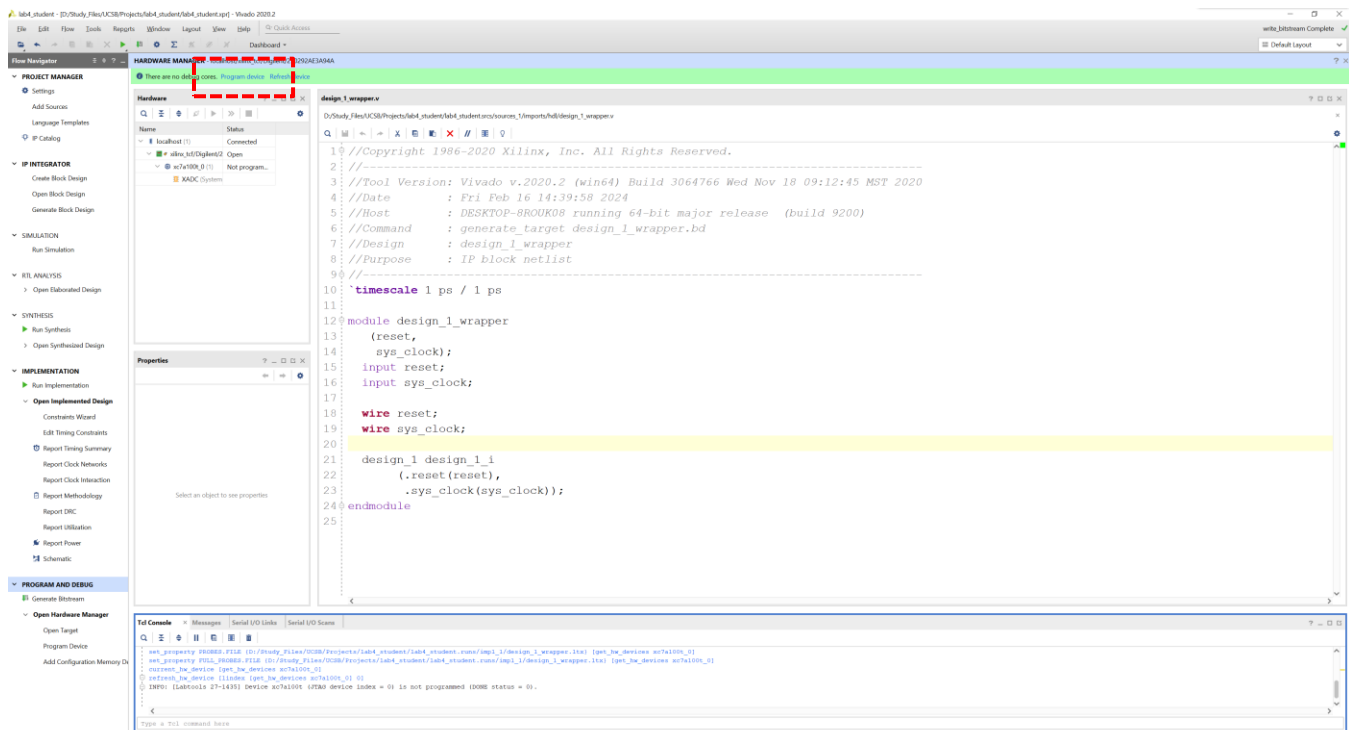

Figure 6: Connect and program device
- 9) Plug in your board and power on. Click “Open Hardware Manager” and “Open Target”. Click “Auto Connect”. In the popped window, find and “program device”, as in Figure 6.